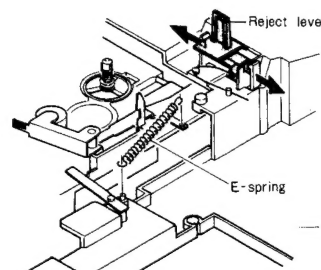

Fig. 7
- 2) Remove the reject lever. (See figure 7)
- 3) Remove the E-spring. (See figure 7)